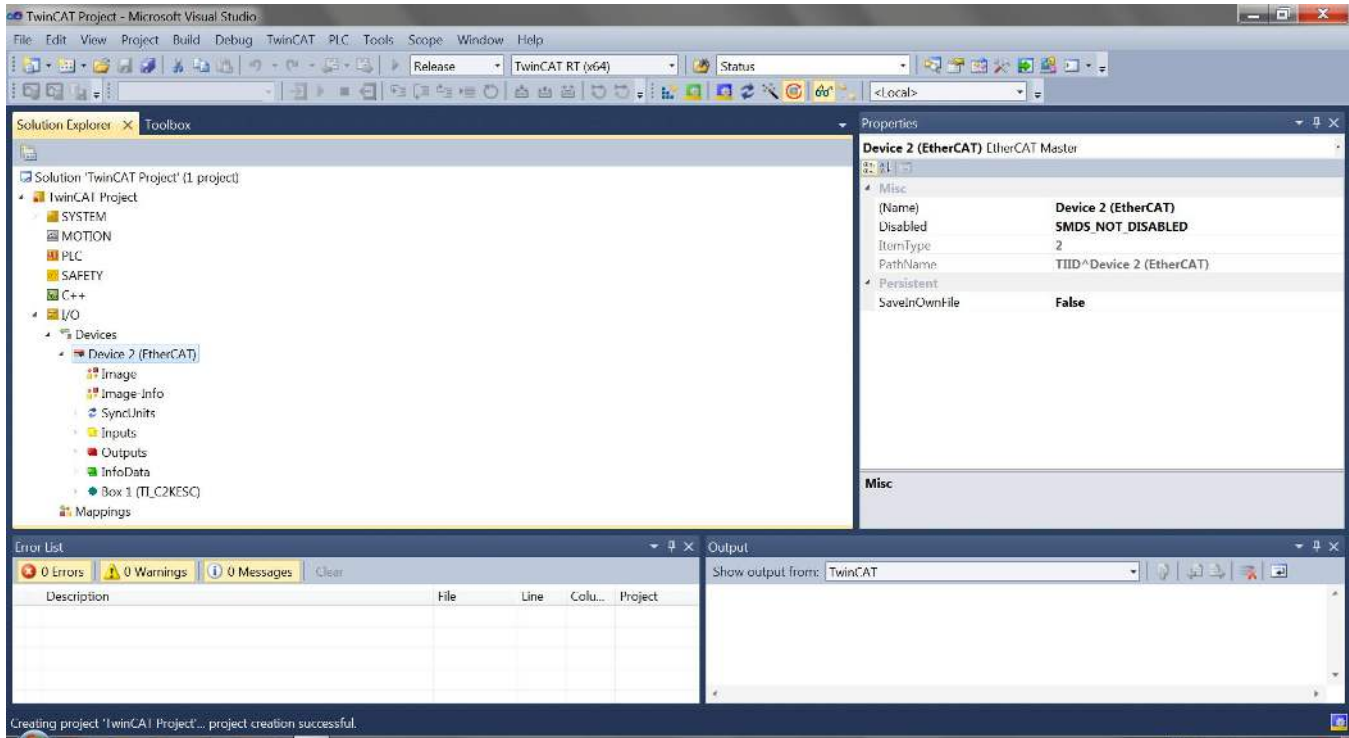

Figure 24. TwinCAT Solution Explorer Showing EtherCAT Master (Device 2) and Slave (Box1, TI_C2kESC)
- (c) The screen view shown in Figure 24 should now be visible in TwinCAT3, indicating that the Master and Slave are connected and prepared for use. Note that “Box 1” appears at the bottom of the image, indicating that TwinCAT has discovered the EtherCAT slave. If this is the first time that the slave has been connected and the EEPROM has not yet been programmed, the “Box n ()” label (for example, “TI_C2KESC”) will not be visible.